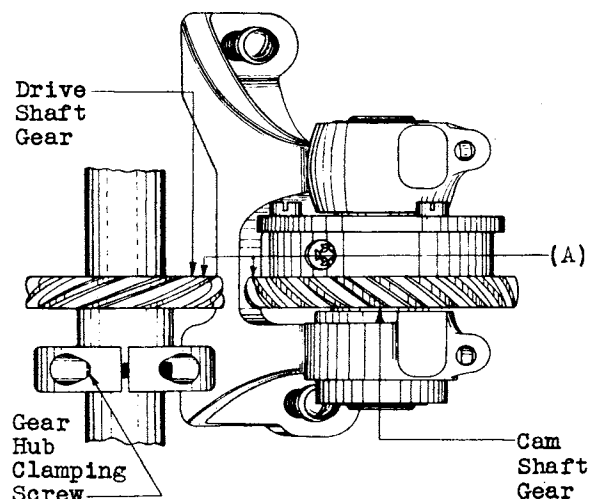

Fig. 6
(a) **Cam Shaft and Vertical Drive Shaft Gears** - Fig. 6 (A) - The top side of the gear on the vertical drive shaft and the top side of the cam shaft gear shall lie in approximately parallel planes perpendicular to the axis of the vertical drive shaft. The sides shall not be out of plane one with the other in a vertical direction more than 1/32". Gauge by eye.